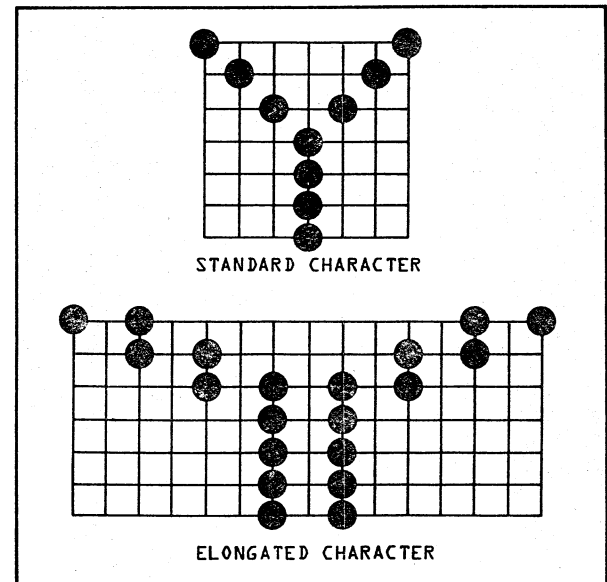

FIGURE 1-10. ELONGATED CHARACTER
The elongated character mode is set when a (037) octal code is loaded and will be reset when a (036) octal code is loaded or a controller clear is generated. This print mode can only be enabled in the on-line mode. If the interface ready signal from the printer resets while the elongated character mode is enabled, the processor must reload the (037) octal code when the next data transfer occurs in order for this mode to be maintained. (Figure 1-10).